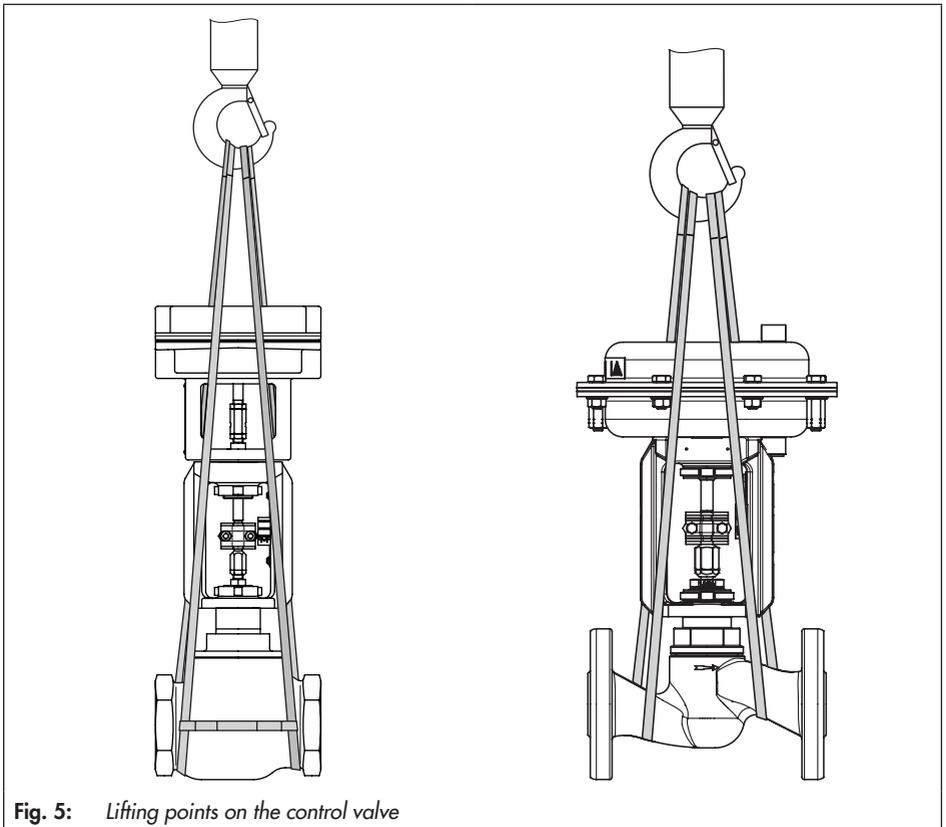

Fig. 5: Lifting points on the control valve
- Use a hook with safety latch (see Fig. 5) to secure the slings from slipping off the hook during lifting and transporting.
1. Attach one sling to each threaded end of the body and to the rigging equipment (e.g. hook) of the crane or forklift (see Fig. 5).
1. Attach one sling to each flange of the body and to the rigging equipment (e.g. hook) of the crane or forklift (see Fig. 5).